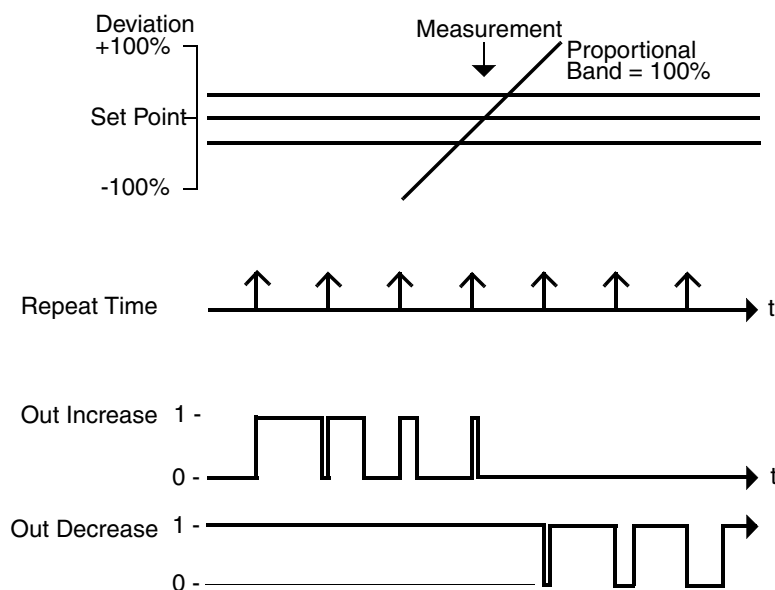

Figure 2. Pulse Width Modulation Algorithm Timing Diagram
- ▶ Within each control period, the algorithms operate as linear proportional only controllers whose gain is adjusted by the proportional band setting. See Figure 2 for an example of a pulse width modulation timing diagram.
- ▶ The algorithm provides Integral-only (I) response to position a motor-driven valve. An optional local Operator's Control Panel is available for manual driving of the outputs when the pulse width modulation algorithm is in use.